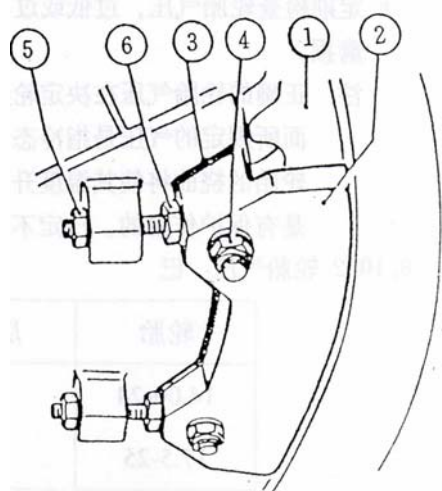

Fig. 58
8.9.4 Adjust blade rotating tooth ring(Fig.58)
1. Measure the axial clearance between the tooth ring(Fig.58/1) and 4 guide plates (Fig.58/2) by the use of clearance gauge, guarantee that the clearance is ranged from 0.6mm~0.8mm (Fig.58/3).
2. After unscrewing fastening nuts (Fig.58/4), take out the 4 guide plates (3) to make the clearance conform to the requirement, reassemble the guide plate.
1. Loosen the screw (Fig.58/4) and nut (Fig.58/5) and unscrew bolt (Fig.58/6) to adjust the guide plate.
2. Retighten all nuts. The tightening torque of nut is 590Nm (Fig.58/4).